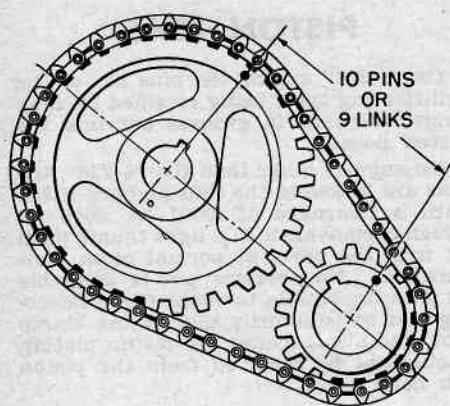

Fig. 10 Valve timing.
15. To install, reverse foregoing procedure and set valve timing as shown in Fig. 10.
For correct valve timing on this engine, install the chain so there are 10 pins between the sprocket timing marks, Fig. 10.